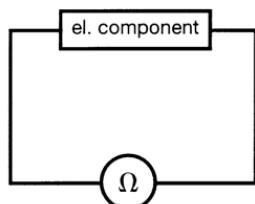

Fig. 3
1. Place the immersion probe set, which is enclosed in a watertight plastic bag, into the water bath. The resistance values for the PTC, NTC, metallic film and carbon film resistors, as well as the Cu and CuNi wire resistors, can be measured directly with the digital hand multimeter (circuit diagram, Fig. 3). To do this, connect the multimeter to the ground jack, which is connected to all the components, and the jack located under the symbol corresponding to the respective component. Note the different resistance values, and plot them as a function of temperature.